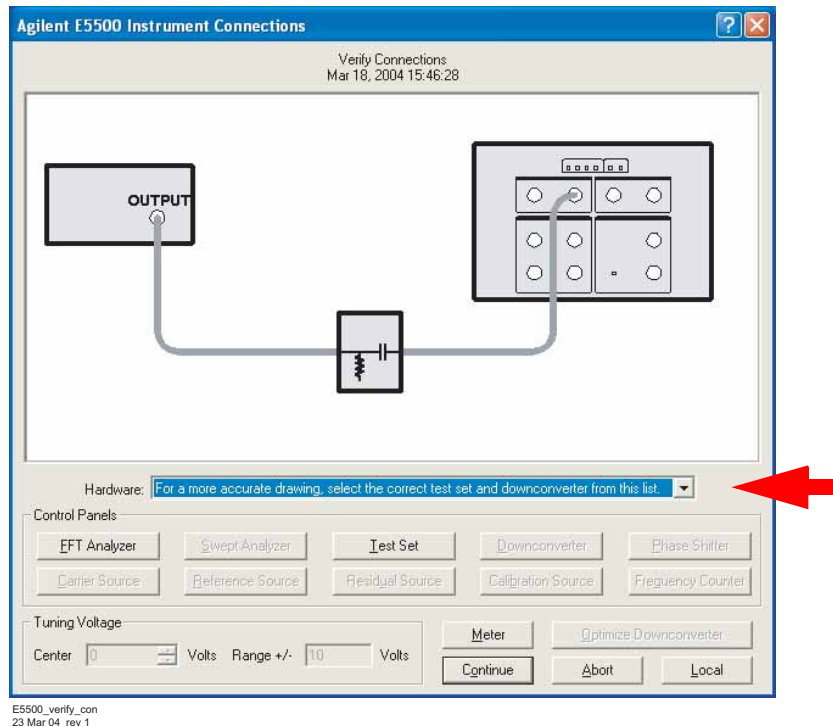

Figure 44 Connection diagram
- 3 When the **Connect Diagram** dialog box appears, click on the hardware pull-down arrow and select your hardware configuration from the list. See Figure 44 on page 75.